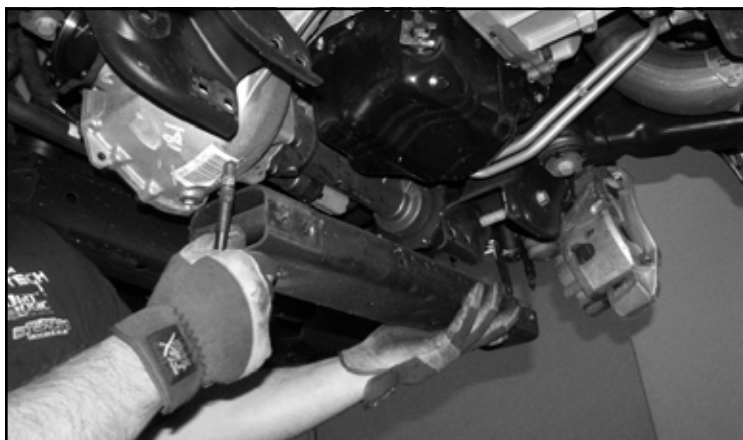

FIGURE 8 - STEP 13
13. Remove the stock differential rear cross member and discard. **SEE FIGURE 8**